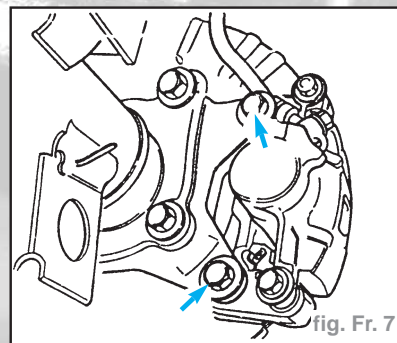

fig. Fr. 7
- Le support d'étrier, deux vis (flèches) (fig. Fr. 7).